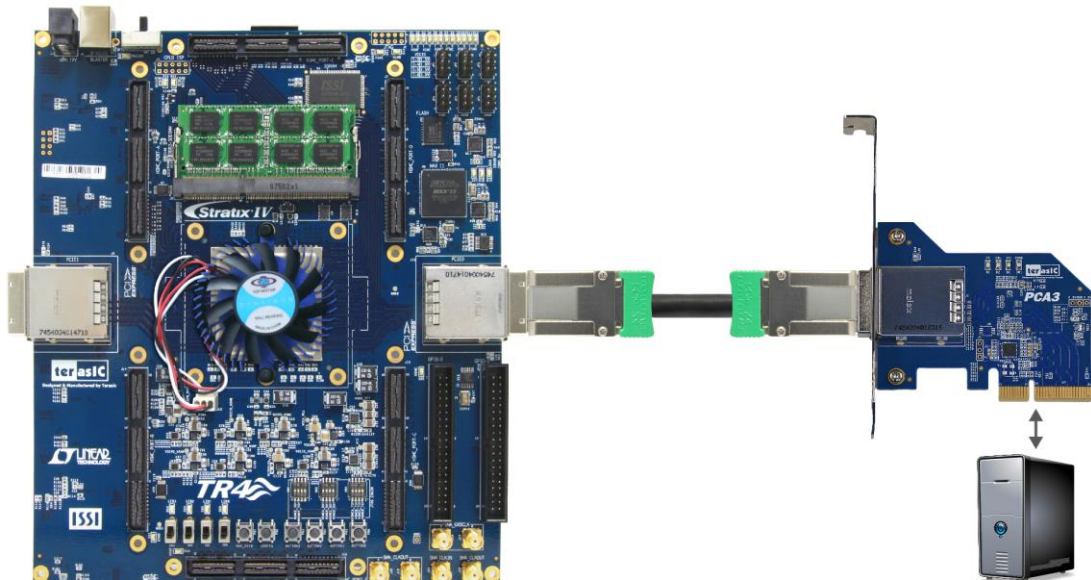

Figure 9 FPGA board connect to PC
1. Use the PCIe cable to connect to the TR4 PCIE0 connector and PCIe adapter card 3 (PCA3) as shown in **Figure 9**.